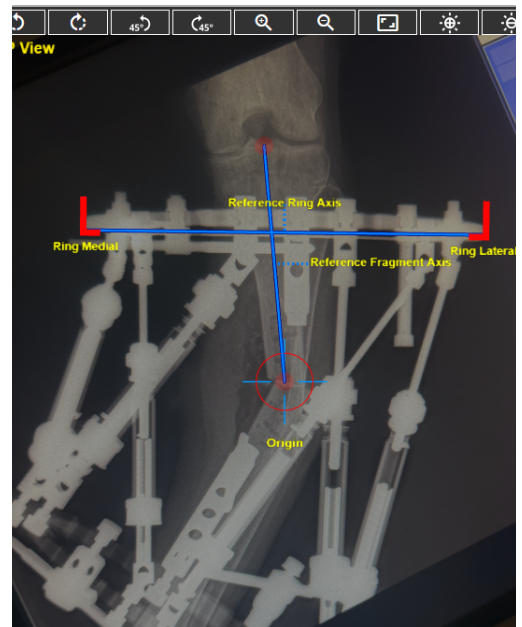

Figure 55
1. In the AP View panel, align the L-shaped markers with the lateral edges of the reference ring. (**Figure 55**). The origin marker (represented by a target circle) is placed at the apex of the deformity.